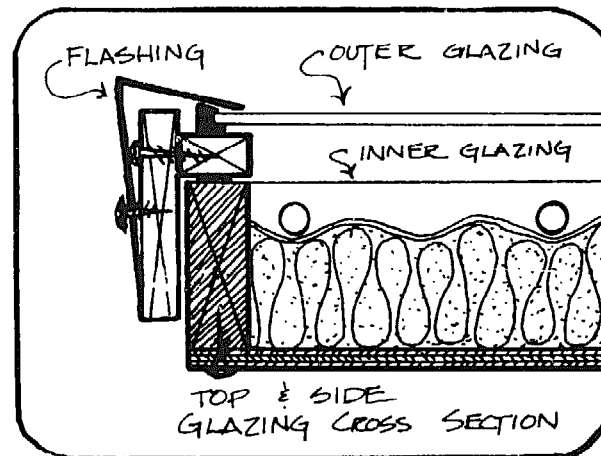
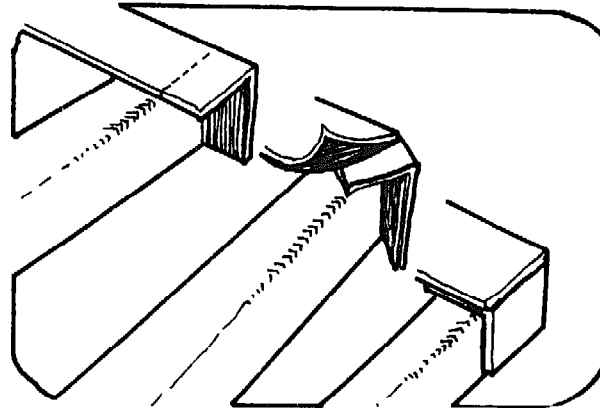

Figure 13
Figure 16
- 16.1** Cut one 56" length and two 96" lengths of flashing for upper end and sides. Bend flashing to the angle shown in Figure 13. Prepare flashing by cutting notches to match notches in cover sides and make overlapping corners at the top as shown in Figures 16 and 17.